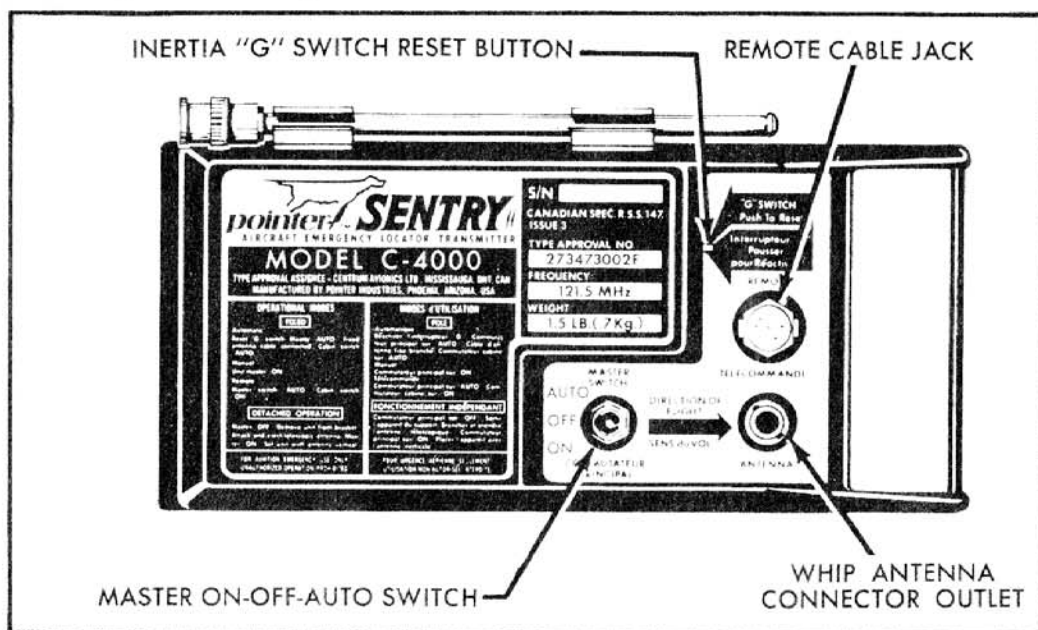

FIGURE 1. POINTER SENTRY OPERATING DETAILS
1-4 POINTER SENTRY ELT (See Figure 1) consists of:
- 2-2 a. Remove POINTER SENTRY from carton and affirm master switch is in the "OFF" position (See Figure 1).